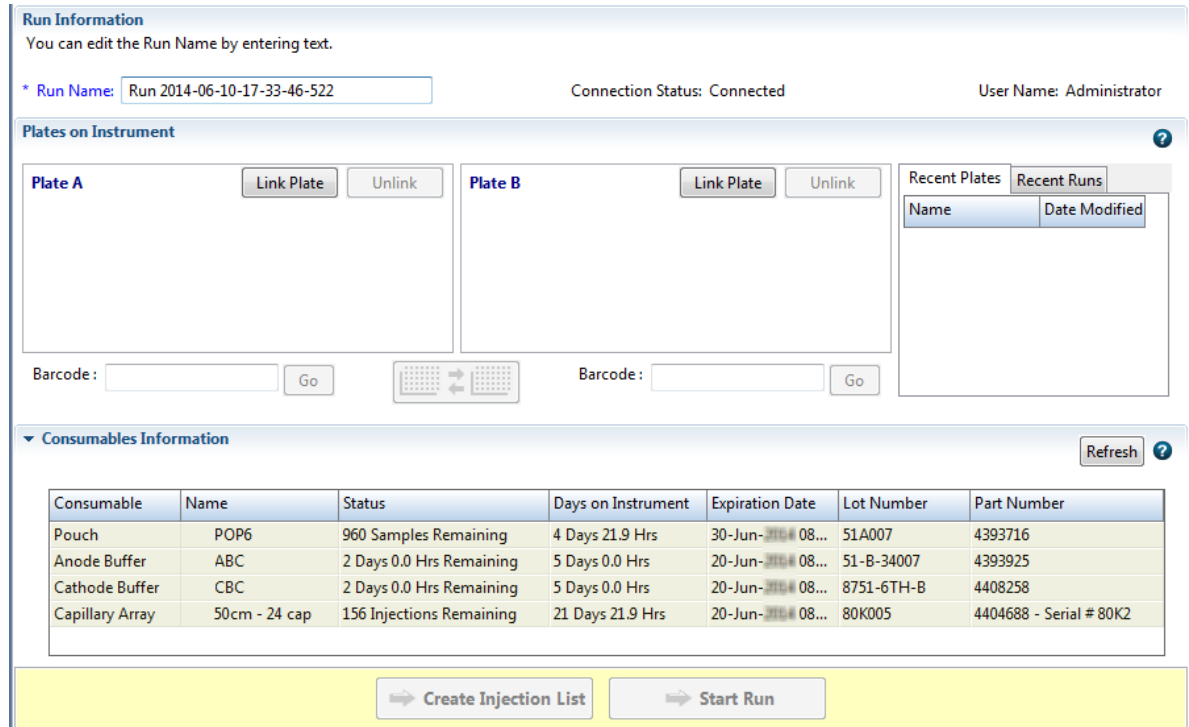

Figure 11 Load Plates for Run
1. Access the **Load Plates for Run** screen (Figure 11) from: